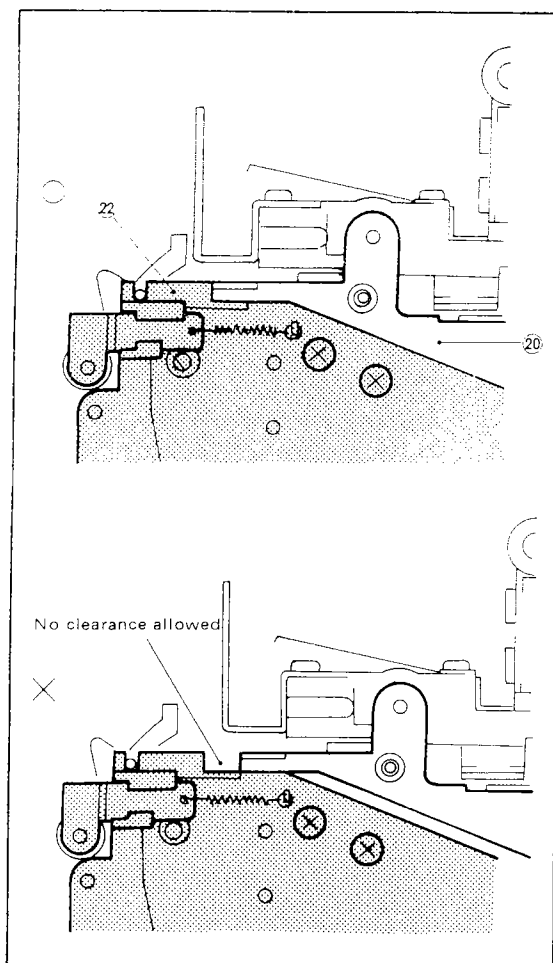
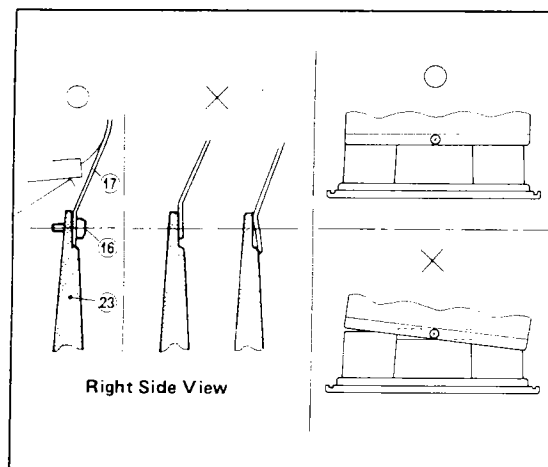

Figure 10-10. Replacing Die Cast Chart Drive Unit Assembly.
Figure 10-11. Securing the Roof Plate.
- (1) Install the upper die casting unit (number 20) properly in place — on the lower unit (number 22) so as not to provide a clearance (see Figure 10-10).
- (2) Tighten the four screws (number 18). Pass the two connector cables (numbers 12 and 13) under the molded guide (number 19).
- (3) Tighten the screw (number 16) — (see Figure 10-11).